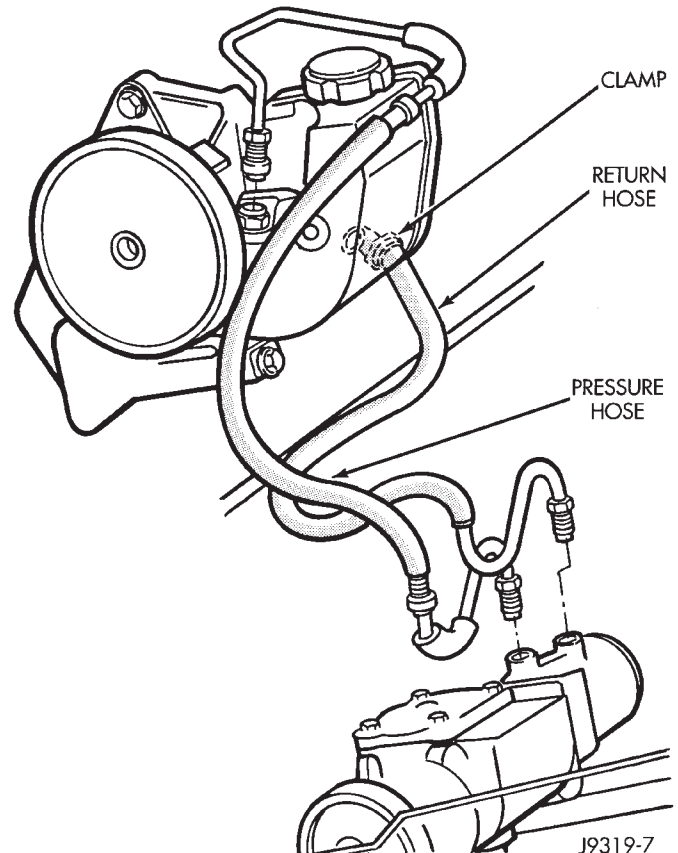

Fig. 1 Power Steering Lines
- (1) Place a drain pan under the pump and gear.
- (2) Disconnect the pressure and return hose from the steering gear.
- (3) Disconnect the pressure and return hose from the pump (Fig. 1). Drain the fluid from pump and reservoir (Fig. 1).